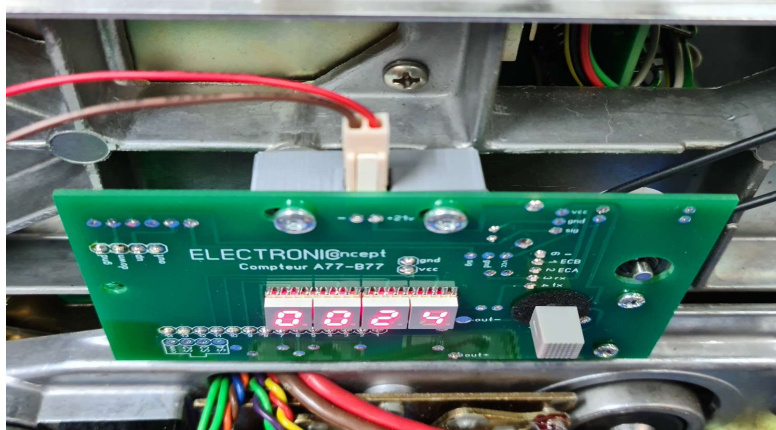

Figure 1
- Disassemble the mechanical meter and install the spacers as in (Figure 1)